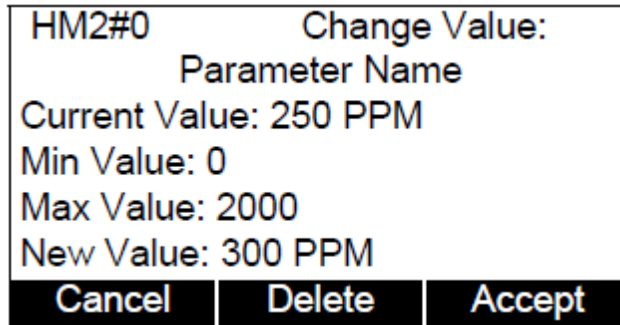

Figure 4-8: Typical Screen for Changing Numeric Parameters
- For numeric parameters, a screen similar to the one shown in Figure 4-8 is displayed. This screen indicates the following information: